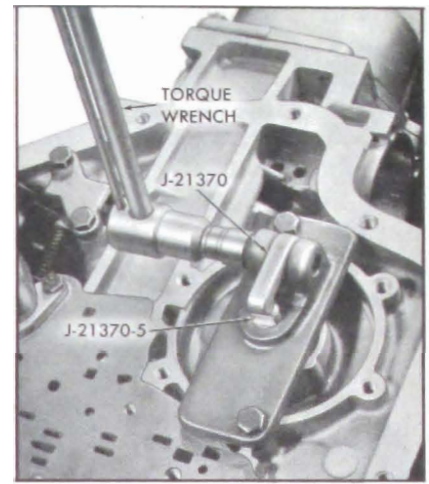

Figure 5-737
b. Apply 25 ft. lb. torque and select proper servo pin to be used from scale on tool. See Figure 5-737.